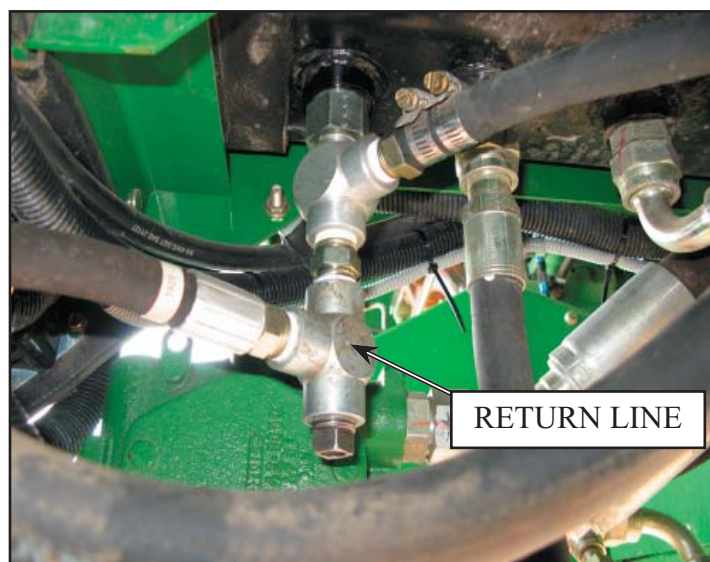

Figure 2.6 - Return line hook up
Refer to *Figures 2.6* for this step.
1. The return line connects to the “Reservoir” as shown in *figure 2.6*. Refer to the Hydraulic Diagram on page 12 for correct fitting size.